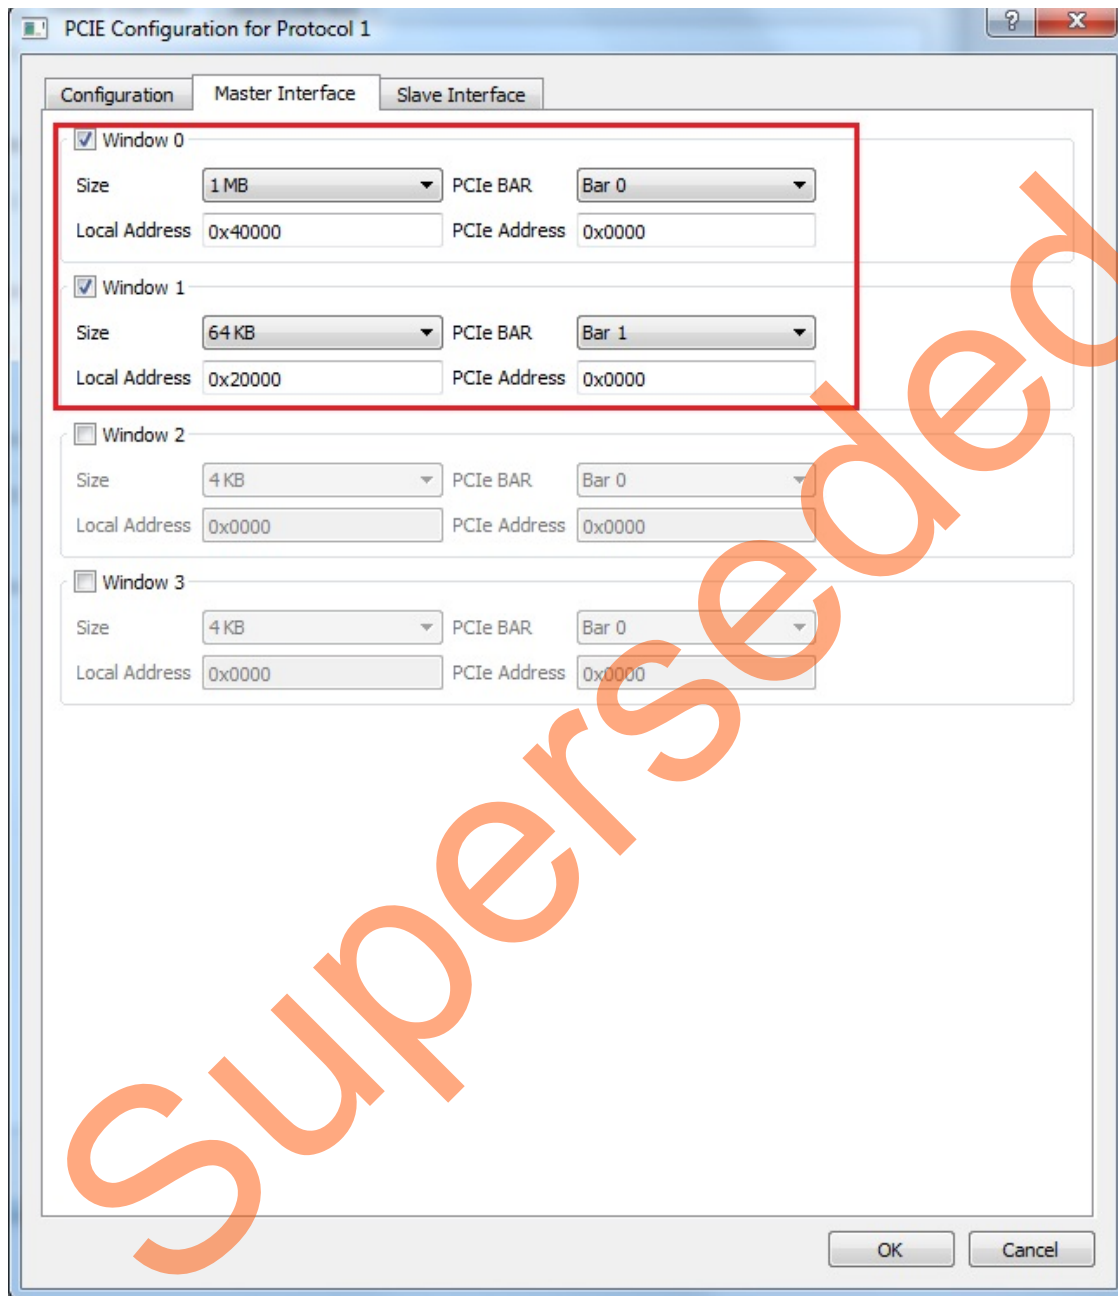

Figure 18 • PCIe Configuration Memory
4. Click the **Master Interface** tab to configure the PCIe master windows. The PCIe AXI master windows are used to translate the PCIe address domain to the local device address domain. In this demo the PCIe AXI master windows are used to translate the address of BAR0 and BAR1 to CoreGPIO address and COREAHBLSRAM address. Make settings as shown in Figure 18.